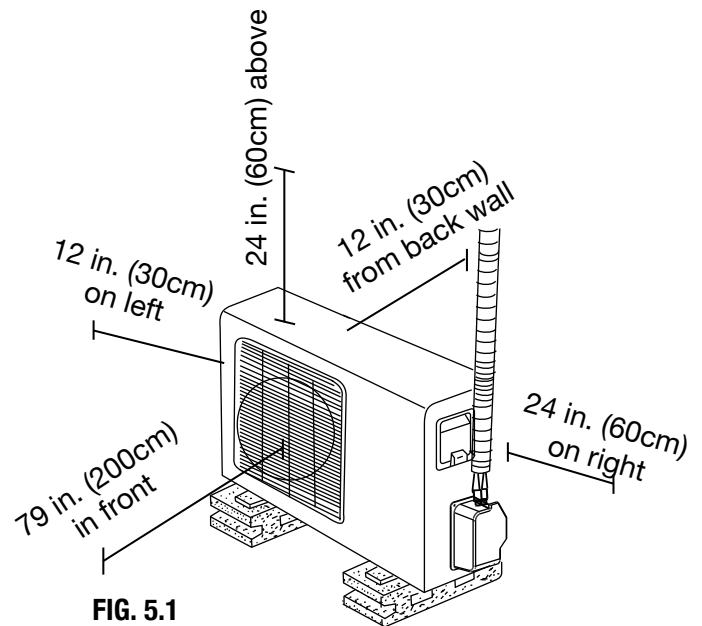

FIG. 5.1
- ☑ Meets all spatial requirements shown in Installation Space Requirements (Fig. 5.1)